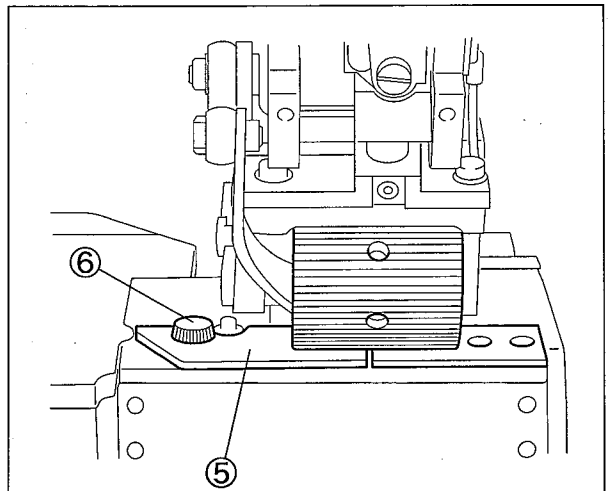

Fig. 22
1. Loosen the screw ② of upper feed roller lever ①.
2. Loosen the two screws ④ of upper roller yoke(lower) ③.
3. Rotate upper roller yoke(lower) ③ fully counterclockwise in view of above, and tighten the screws ④ . (Fig. 22)
4. Loosen the screw ⑥, put the roller lower plate(right) ⑤ upside down and change the direction. Fix it with the screw ⑥ as figure.
5. Tighten the screw ② to adjust the right-and-left position of upper feed roller lever ①. (Refer to 「3.7.3 Attention for setting roller」.)